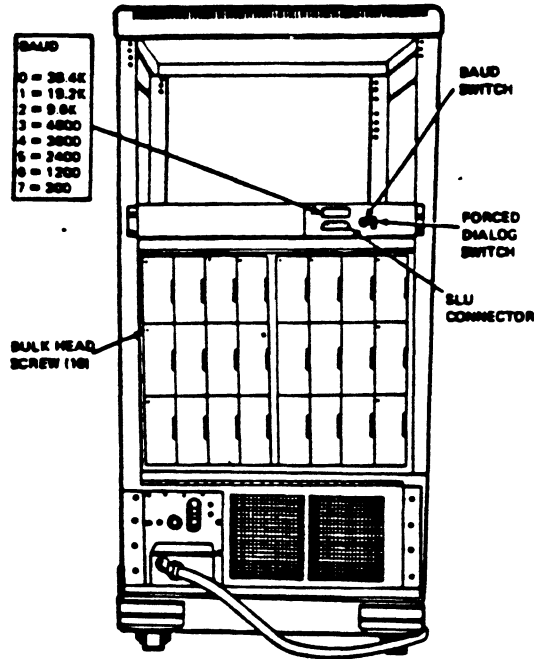

FIGURE 5-31 CABINET REAR VIEW
10. Loosen the ten screws securing the bulkhead to the cabinet frame and lower the bulkhead. See Figure 5-31.